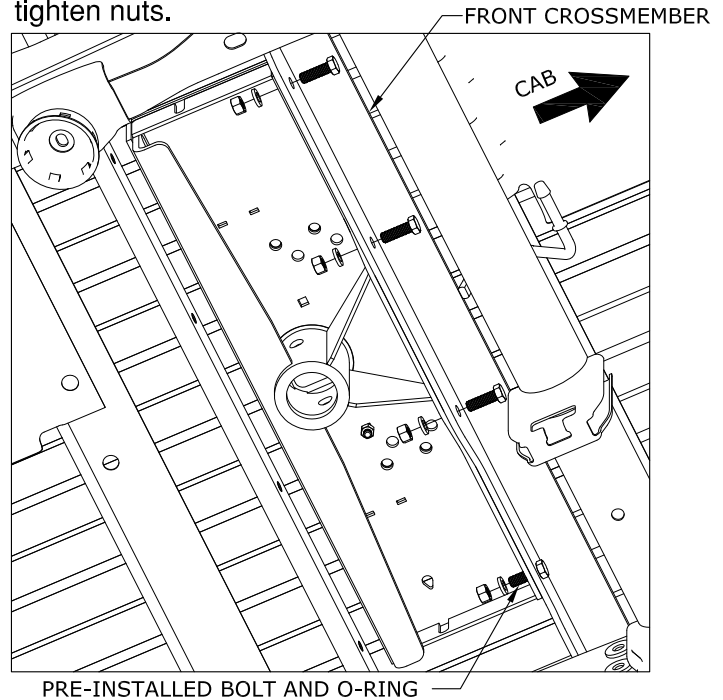

FIGURE B9: View under the center section looking from in front of the axle on the passenger side.
6. **Attach the front cross member to the center.** Slide the front cross member back against the center section so that the bolt installed previously in the front cross member goes into the center section hole directly across from it. Line up the rest of the holes and attach the two members with $\frac{1}{2}$ X $1\frac{1}{2}$ " long bolts, lock washers, and nuts as shown in figure B9. Hand tighten nuts.